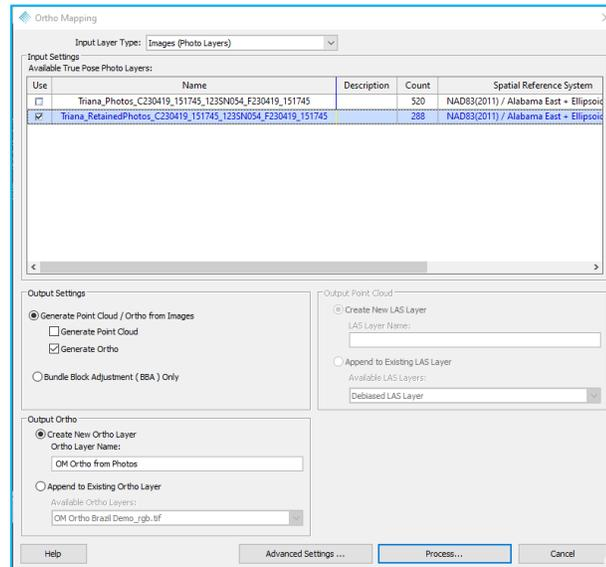

Figure 107 – Ortho Mapping dialog with Input Layer Type: Images (Photo Layers)
25. After selecting the input layer type to be **Images** the Ortho Mapping dialog will change to look like Figure 107.